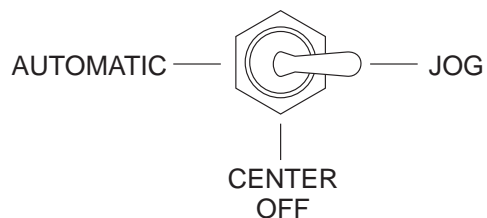

Figure 59. Cylinder Stroke Control Switch (JOG)
1. To determine the pressure of the hydraulic system, set the **cylinder stroke control switch** (Figure 59) to the **JOG** position.